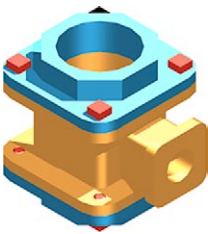

Fig. 17.9 Second example UCS – steps 12 and 13 + rendering
### Second example – UCS (Fig. 17.9)
13. In the **UCS \*WORLD\*** view, move the parts into their correct position relative to each other. **Union** the two filleted rectangular extrusions and the main body. **Subtract** the cylinder from the whole (Fig. 17.9).